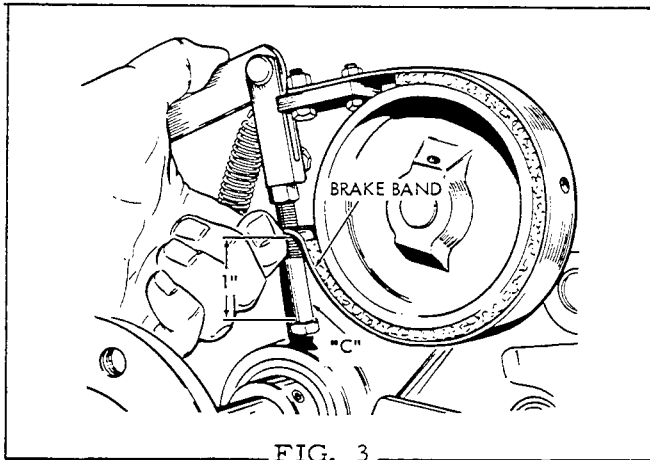

FIG. 3
- (1) Rear Axle Tube - (Fig. 3)
2. Pull brake band up by hand so that it is tight around brake drum. Adjust hex screw (C) to have a clearance of 1" between brake band and screw as shown in Fig. 3.